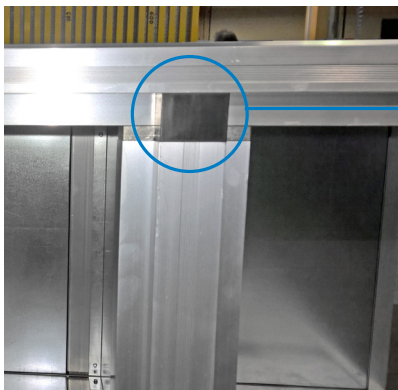

Figure 7
- removing the plastic caps (Figure 7)